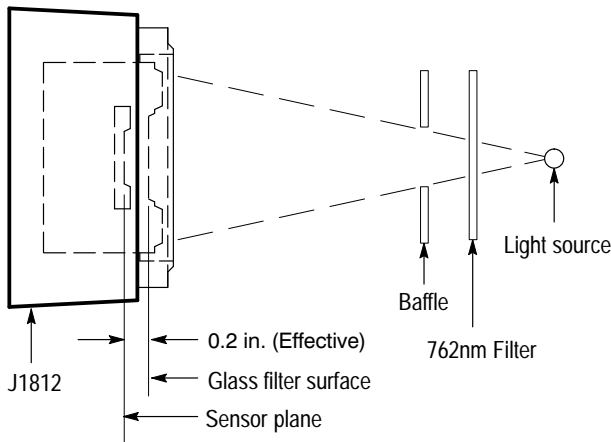

Figure 1–25: Setup for verification of the photometer with the J1812
4. Position the J1812 so that the effective sensor plane (0.2 inches or 0.5 cm) behind the front glass filter surface) is at the same point as was used for the reference sensor. Refer to Figure 1–25.